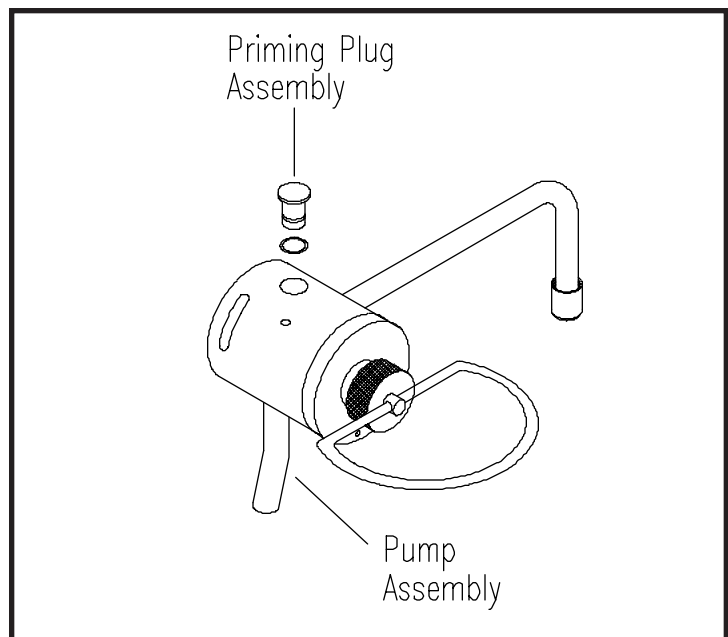

Figure 1: Pump Assembly
4. Remove the priming plug assembly from the top of the pump body assembly. Refer to Figure 1. Hold a container under the discharge tube and continuously press the push bar assembly while pouring a spoonful of melted product in the opening. Quickly replace the priming plug and watch for product to be dispensed. Repeat the priming process as needed until a regular flow has been established. If the first servings are milky, indicating air in the product, return the servings to the bowl.